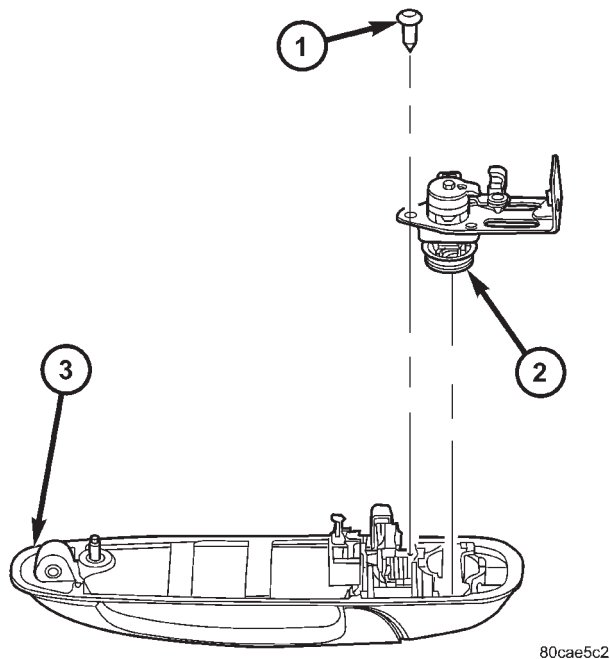

Fig. 6 LOCK CYLINDER
(2) Remove the clip and remove the lock cylinder switch.
(3) Remove the screw and remove the lock cylinder. (Fig. 6)